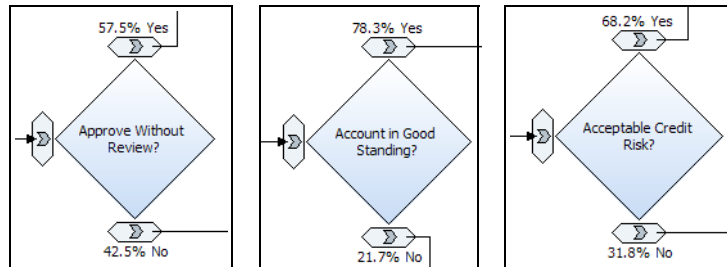

Figure 14-7 Decision blocks with new percentage values
- ▶ We can see the new percentages for the decision blocks (Figure 14-7).